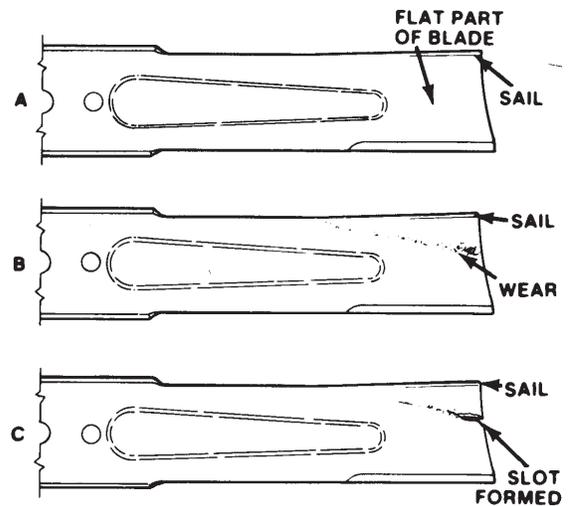

Figure 14
2. Examine cutting ends of the blade carefully, especially where the flat and curved parts of the blade meet (Fig. 14-A). Since sand and abrasive material can wear away the metal that connects the flat and curved parts of the blade, check the blade before using the machine. If wear is noticed (Fig. 14-B), replace the blade; refer to Removing the Cutter Blade, page 14.
If the blade is allowed to wear, a slot will form between the sail and flat part of the blade (Fig. 14-C). Eventually a piece of the blade may break off and be thrown from under the housing, possibly resulting in serious injury to yourself or bystanders.